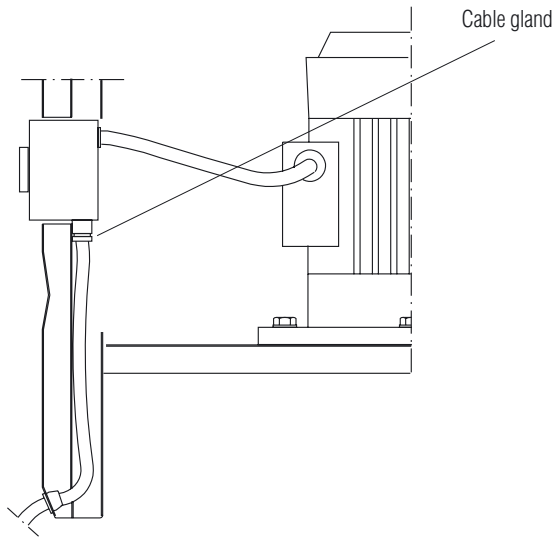

Fig. 3
A. Power roof ventilator with SAFE safety isolating switch, Figure 3.